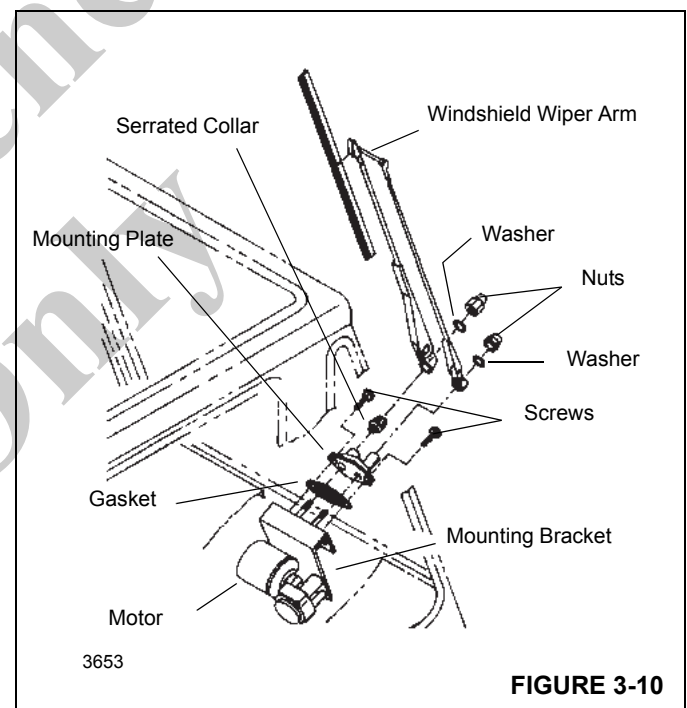

FIGURE 3-10
2. Connect the wiper motor to the motor bracket with screws and washers (see Figure 3-10). Connect the wiper motor's shaft to the wiper motor kit crank with the nut and washer.